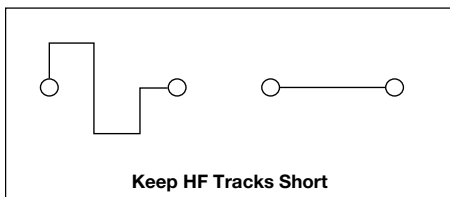

Fig. 1
- Keep HF and RF tracks as short as possible, and lay out the HF tracks first (Fig. 1)